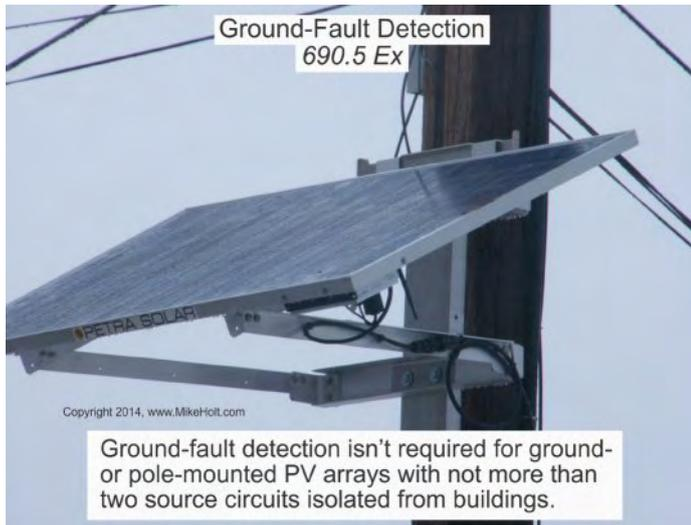

Figure 690–25
*Ex: Ground-fault detection isn't required for ground- or pole-mounted PV arrays with not more than two source circuits isolated from buildings. Figure 690–25*